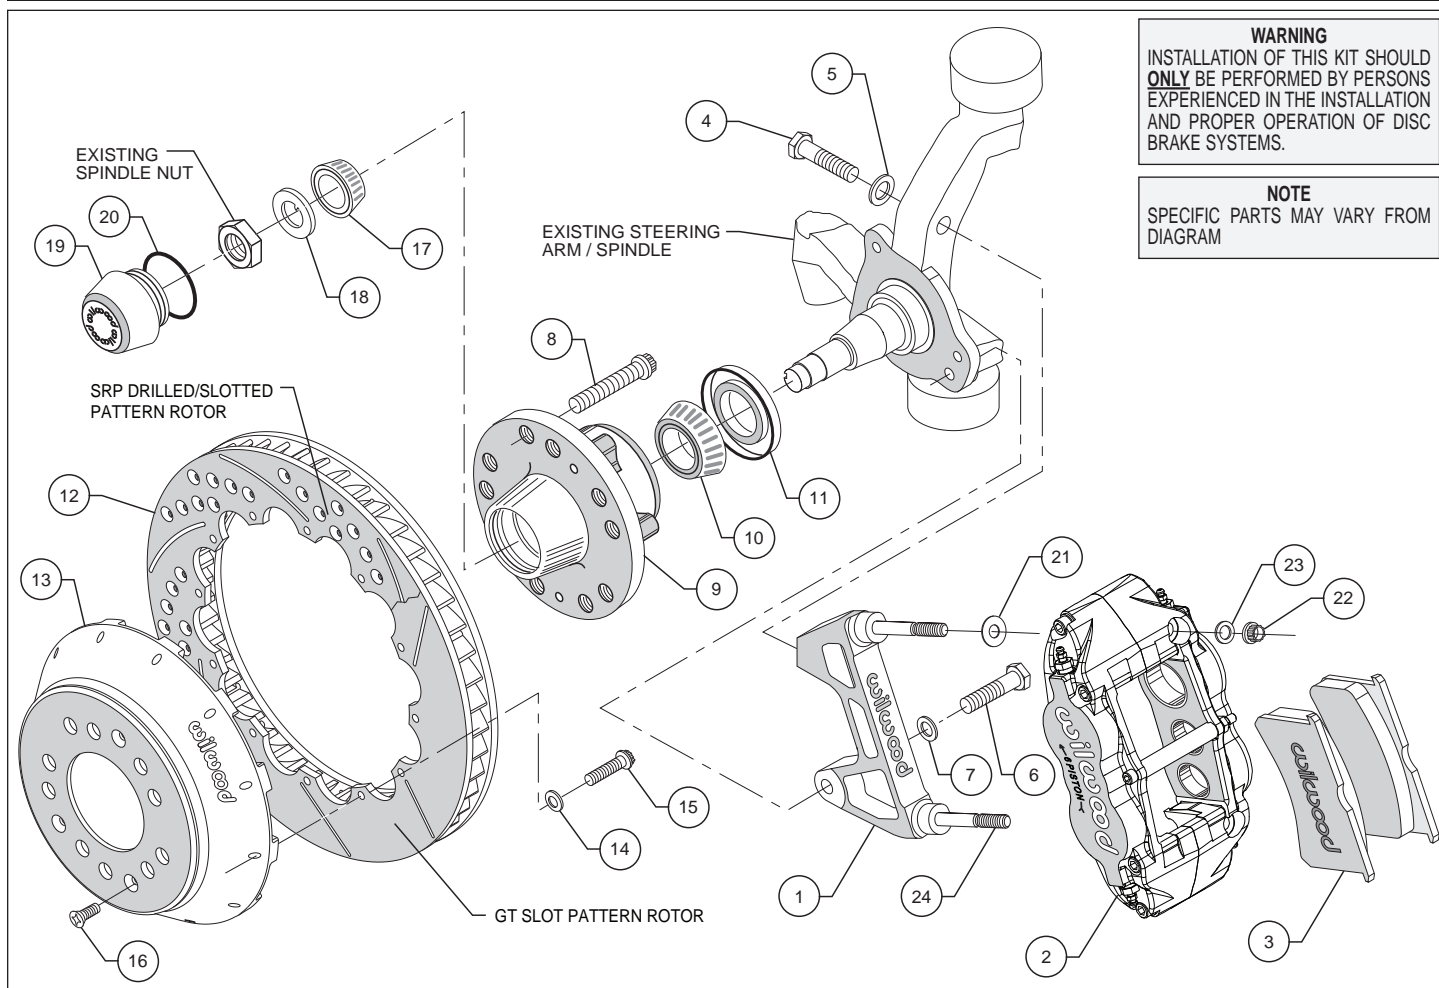

Figure 1. Typical Installation Configuration
- NOTE:** *This kit contains distinct right and left hand calipers that must be mounted in a specific direction, as described below.* Lubricate the caliper mounting studs (24) with lightweight oil. Initially place one .035" thick shim (21) on each stud as shown in Figure 1. Mount the caliper (2) onto the bracket (1) using lock nuts (22) and washers (23), Figure 1. Ensure that the caliper is mounted so that the largest pistons are at the rotor exit end of the caliper, in relation to the direction of rotor rotation.
- Remove the caliper center bridge pad retainer bolt, nut, and tube from the caliper. Slide the brake pads (3) into place. They should install easily without interference. Check that the outside radius of the brake pad is aligned with the outside diameter radius of the rotor face. Add or subtract shims (21) between the caliper and mount bracket to gain the proper alignment. Lubricate caliper mounting studs and nuts with lightweight oil, reinstall the caliper and torque the caliper nuts (22) to 30 ft-lb. Reinstall the center bridge pad retainer tube, bolt, and locknut. The locknut should be snug without play in the bolt or tube. Be cautious not to over tighten.